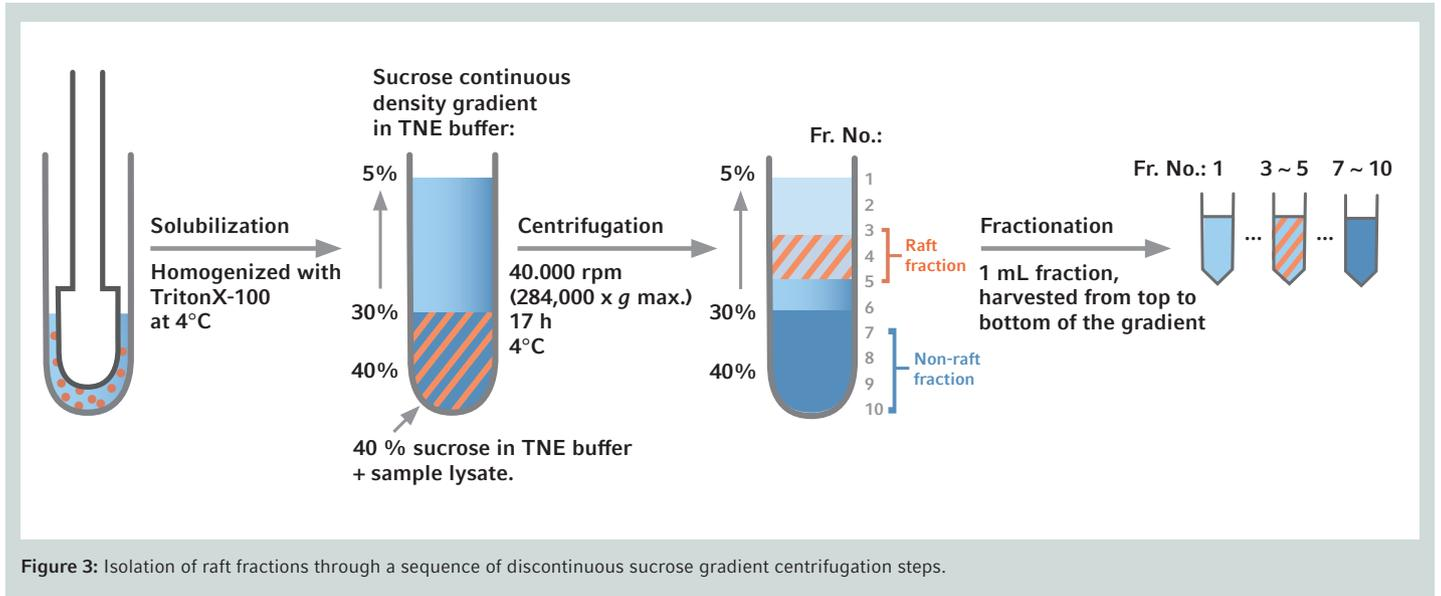

Figure 3: Isolation of raft fractions through a sequence of discontinuous sucrose gradient centrifugation steps.
- > Note that the lipid raft fractions DRM (detergent-resistant membrane) are in fractions No. 3–5 (see Figure 3)
Figure 3 below provides an overview of the complete raft isolation method:
The purification success of the isolated fractions (fig.3) can be checked by SDS-PAGE and subsequent western blots using the following protein markers as it was done in a previous publication4: